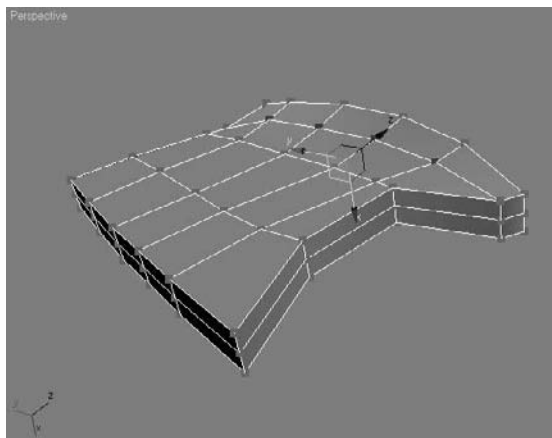

Figure 5.64
7. Choose the row of vertices shown in Figure 5.64. (Make sure you select both rows on the top and bottom sides of the box.)